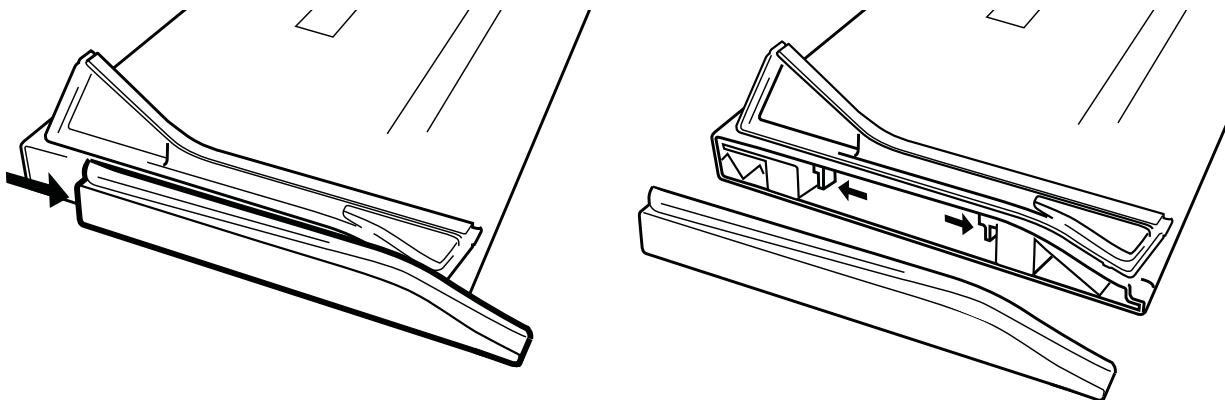

Figure 2-2 Removing side panels (left); removing riser brackets
1. Slide the side panels off (Figure 2-2 left).
2. Press the tabs to release the riser brackets (Figure 2-2 right).
3. On the second MC Mix, remove the side panel (see Figure 2-2 left) on the end where it will attach to the first MC mix.